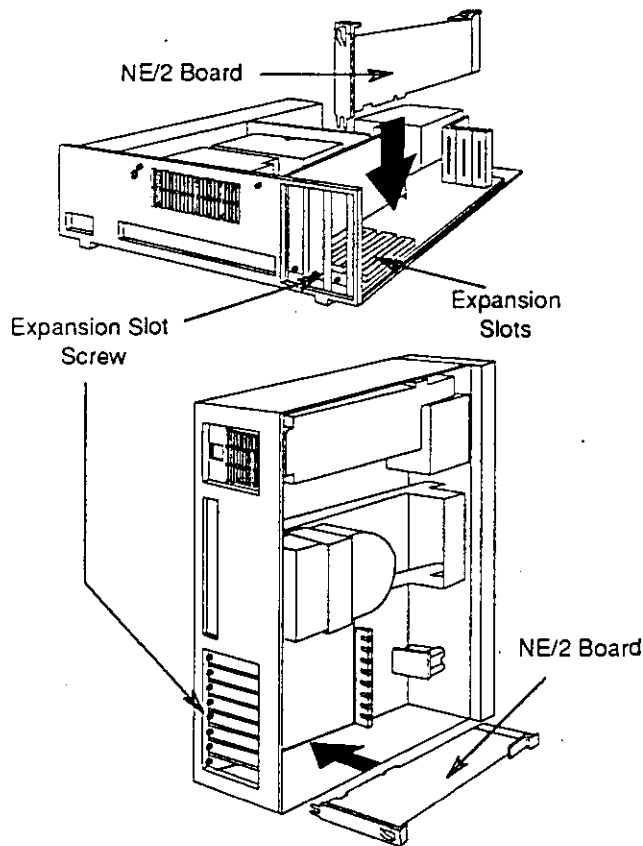

Figure 2.21
5. Insert the NE/2 board into the slot, pressing it firmly into the expansion slot connector. (See Figure 2.21.)